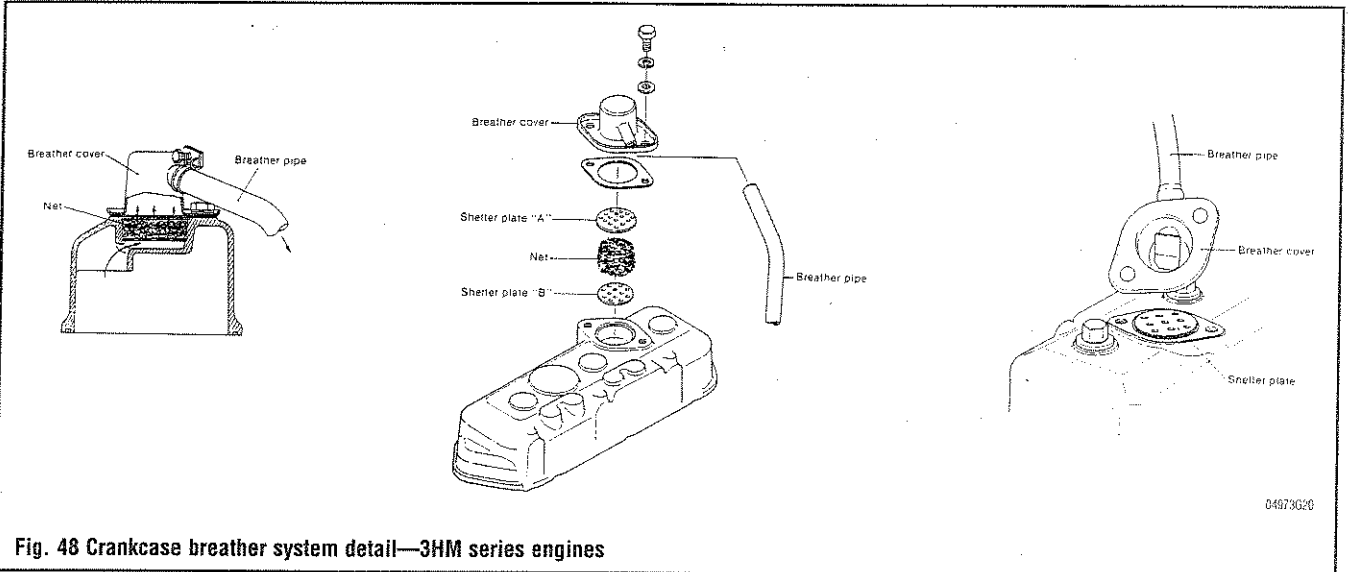

Fig. 48 Crankcase breather system detail—3HM series engines
▶ See Figures 48, 49, 50, 51 and 52